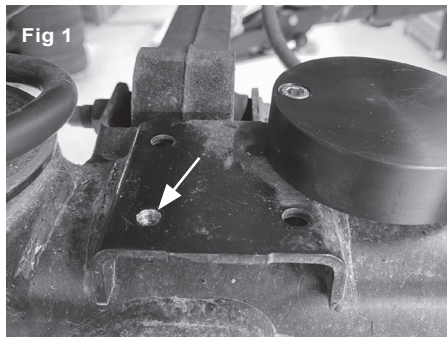

Fig 2
Route the hose under the frame and secure it with zip ties to the motor mounts, see fig 2 & 3. If needed, drill a hole in the motor mount and fasten the zip ties through it. Insert the reservoir into the reservoir plastic clamps and tighten the 20 mm M5 screw (7) with the M5 nut (8) according to fig 6 & 7
Fit the reservoir bracket to the frame with the 3 pcs M6 screw (14) and M6 nuts (11) according to Fig 2. On the right hand side, you might need to cut the OEM plastic inner fender to be able to fit the reservoir.